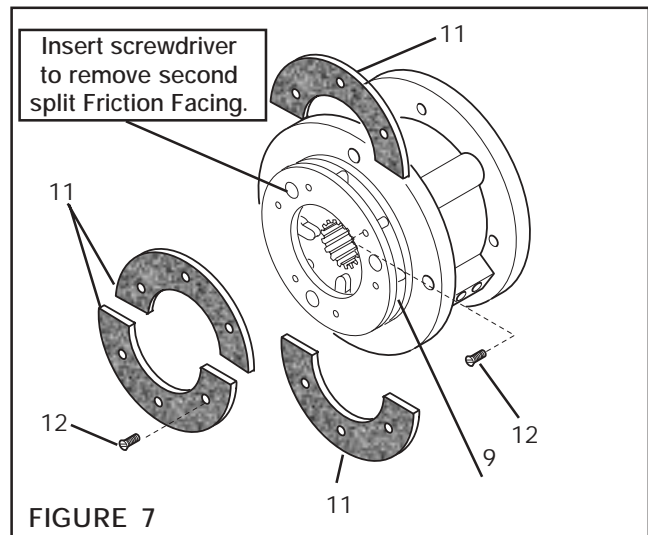

FIGURE 7
2. Remove the six old Flat Head Screws (Item 12), the first old split Friction Facing (Item 11) (See Figure 7).
3. Align the holes in the Splined Disc (Item 9) with the Flat Head Screws (Item 12) that secure the second split Friction Facing (Item 11) (See Figure 7).
4. Remove the six old Flat Head Screws (Item 12) and the second old Friction Facing (Item 11) (See Figure 7).
5. Install the first new split Friction Facing (Item 11) and new Flat Head Screws (Item 12) (See Figure 7).
7. Install the second new split Friction Facing (Item 11), new Flat Head Screws (Item 12) (See Figure 7).